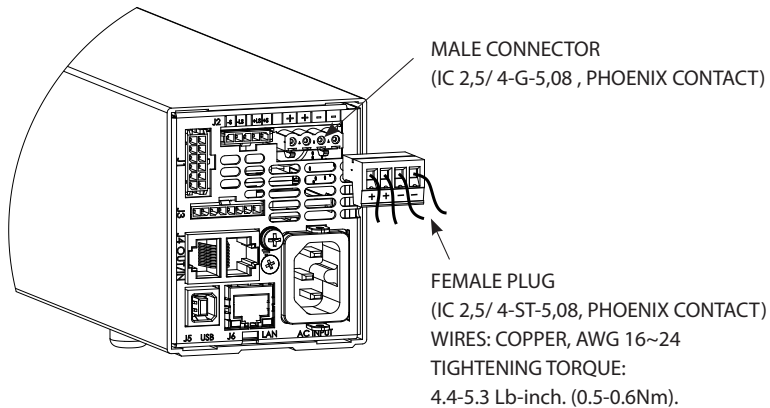

Fig.3-4: Load wires connection to the output plug.
3. Insert the stripped wires into the terminal and tighten the terminal screw securely (see Fig.3-4).